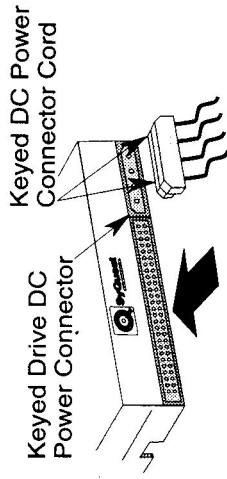

Figure 8. Connecting the DC Internal Power Cable
6. Connect the 4-conductor DC internal power cable to the drive, as shown in Figure 8.
The SQ3105S/SQ3270S has a 4-pin DC power connector (shown in Figure 8) mounted on the printed circuit board. Most computers are already configured with the power connectors attached, and these connectors should be used.